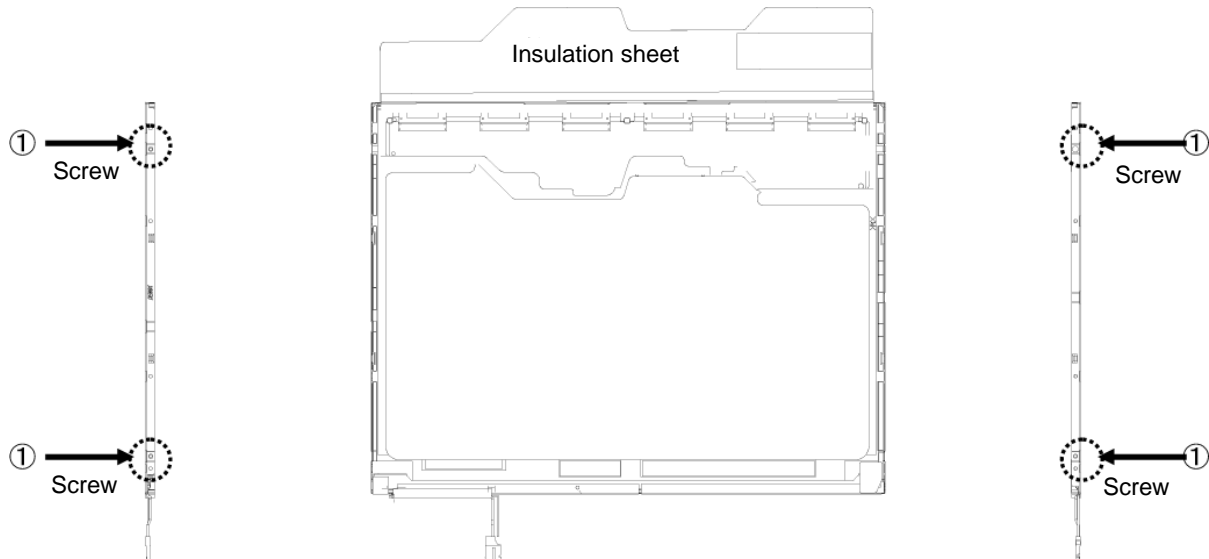

Figure 4-62 Replacing 14.1 Inch TMD fluorescent lamp (SXGA+) (10)
1. Fasten four screws shown in Figure 4-62.